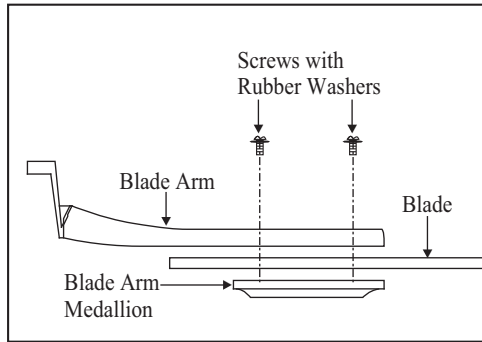

Figure 14
1. Attach blades to blade arm using the screws with rubber washers provided (Fig. 14). Start a screw into the blade arm, do not tighten. Repeat for the 2 remaining screws and washers.